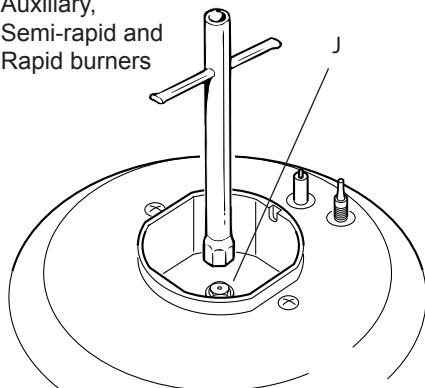

Fig. 9.5a
- Using a wrench, substitute the nozzle injectors "J" (figs. 9.5a, 9.5b) with those most suitable for the kind of gas for which it is to be used.